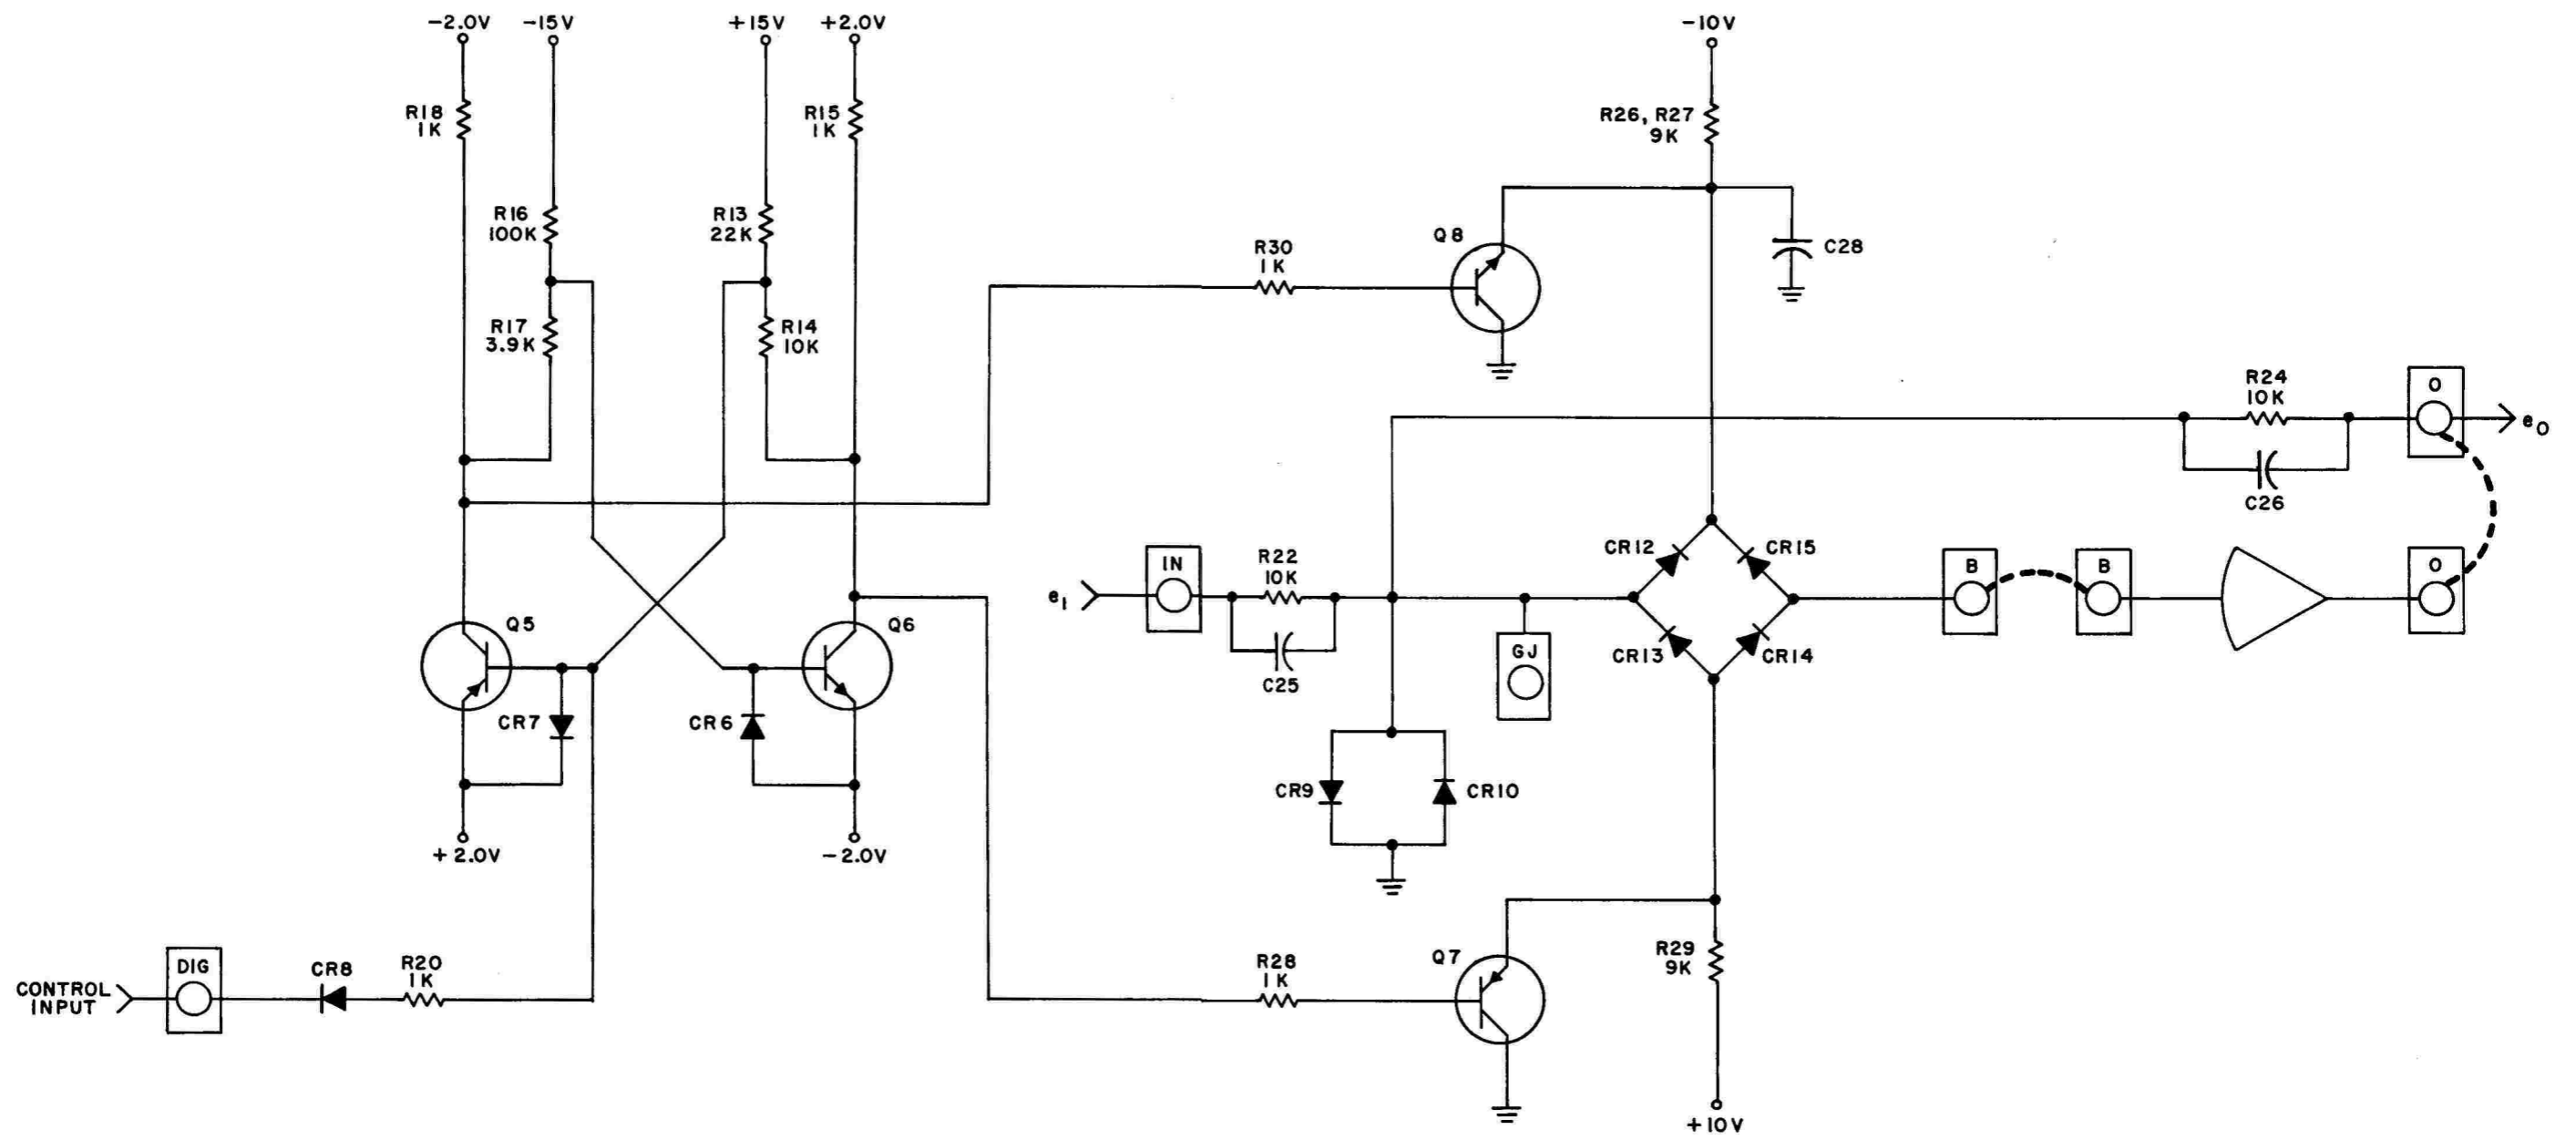

Figure 48.
(2) The Electronic Switch Circuits. A simplified schematic of one of the switch circuits is shown in Figure 48. Transistors Q5 through Q8 comprise a complementary-symmetry control circuit. A binary ONE level at the digital input (DIG) terminal is coupled through diode CR8 and resistor R20 to the base of Q5, turning the transistor off. The collector of Q5 goes in a negative direction, and the negative change is coupled through R17 to the base of Q6, also turning this stage (NPN) off. The collector of Q6 goes in a positive direction, adding to the reverse bias on Q5 through R14. The collectors of Q5 and Q6 are connected to the bases of Q8 and Q7 through R30 and R28 respectively. The negative voltage from the collector of Q5 drives Q8 into cutoff and the positive voltage from Q6 turns off Q7. With Q8 and Q7 cut off, the four matched diodes (CR12 through CR15) comprising the analog switch are forward biased, allowing the analog input at the input (IN_1) or gate junction (GJ_1) terminal to pass through the gate to the base of the external amplifier.
If a binary ZERO is provided to the digital input terminal, transistor Q5 is saturated. The positive level from the collector of Q5 is coupled through resistor R17 to the base of Q6, turning on this stage. The positive level from the collector of Q5 saturates Q8, and the negative level from Q6 saturates Q7. Therefore, the emitters of Q8 and Q7 are at virtual ground, clamping the upper and lower junctions of the diode bridge (as shown in Figure 48) at ground potential. This prevents any analog input at the IN_1 or GJ_1 terminal from being coupled to the base of the output amplifier.